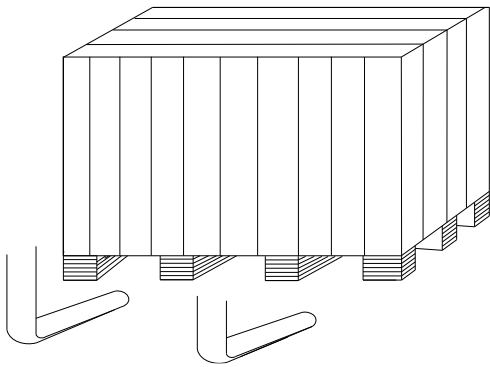
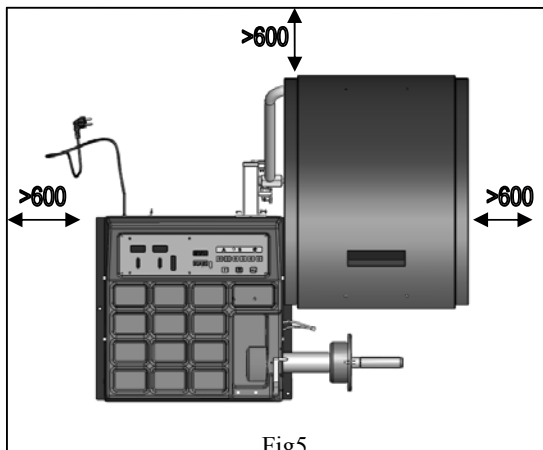

Fig4
Fig5
4. 1. After being sure that the package of your machine is perfect, you can carry the wheel balancer to the installation site.(Fig4). The choice of the installation should comply with the following requirements. The ambient temperature is 0°C-50°C and the RH ≤85%. And the installation site as shown in Fig5.